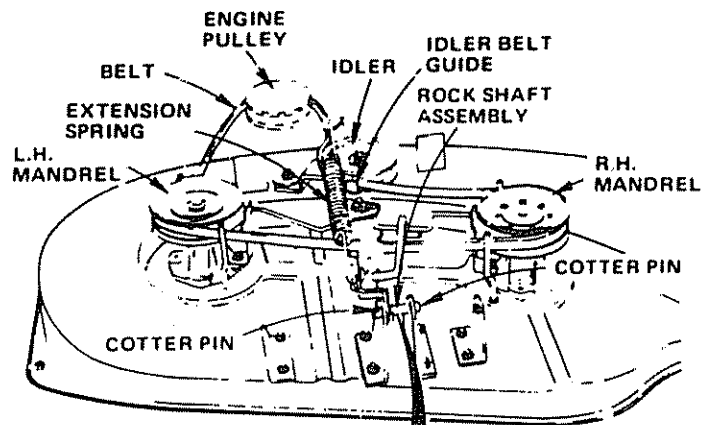

FIGURE 30
- Slide belt under extension spring (Fig. 30).
- Using (2) 1/2 wrenches, remove the bolt, nut & D-shaped washers (Fig. 30 - Inset).